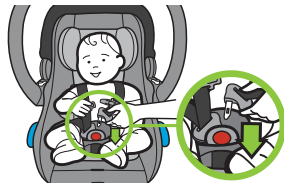

Figure 16
- Insert Buckle Tongues into Buckle one at a time as shown in **Figure 16**. You should hear a click after each Buckle Tongue is inserted.